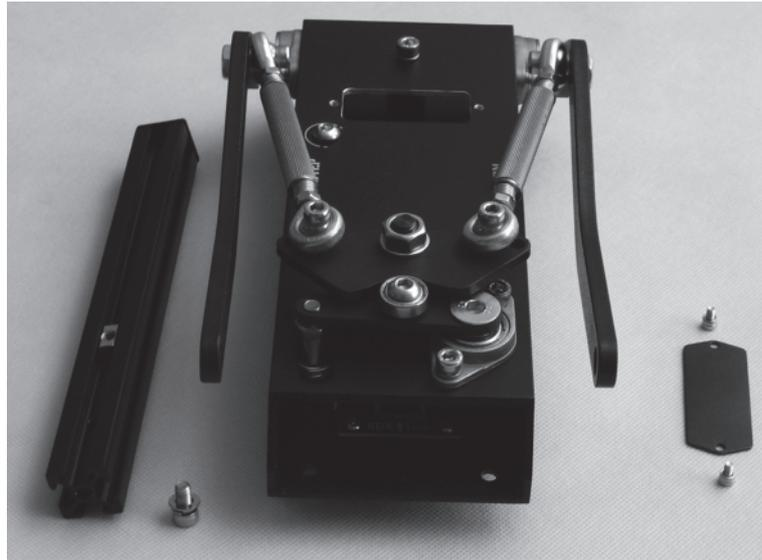

Fig. 2.3.
2. Unscrew false panel from the case (fig. 2.3).